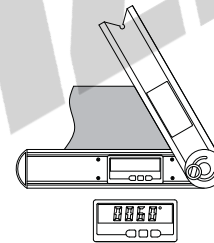
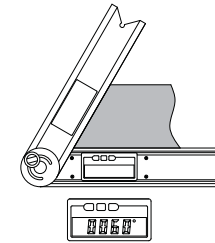
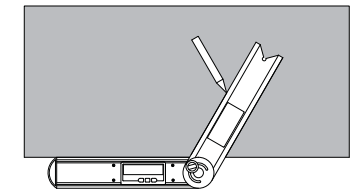

Fig.7
Fig.8
Fig.9
c. Measure angle (Fig.7, Fig.8) and scribe (Fig.9).